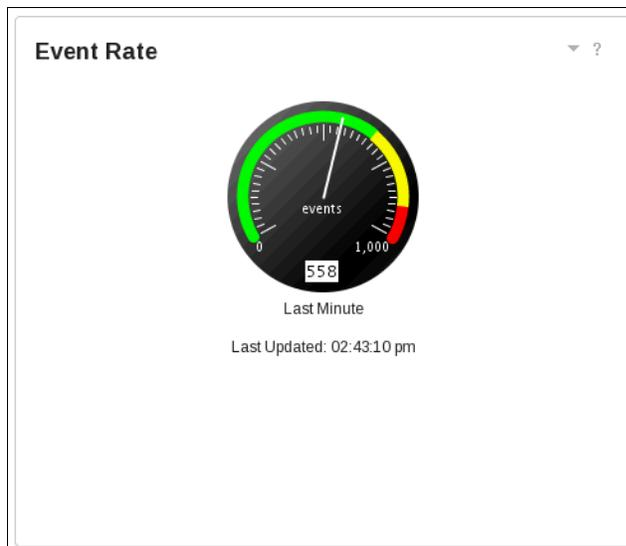

Figure 7-3 Last Minute event rate drops down
6. MTTTraped Probe informs Jane that flood control ends and events are no longer rerouted. After approximately 10 minutes, the event rate gauge settles down at around 560 events per minute, as shown in Figure 7-3.